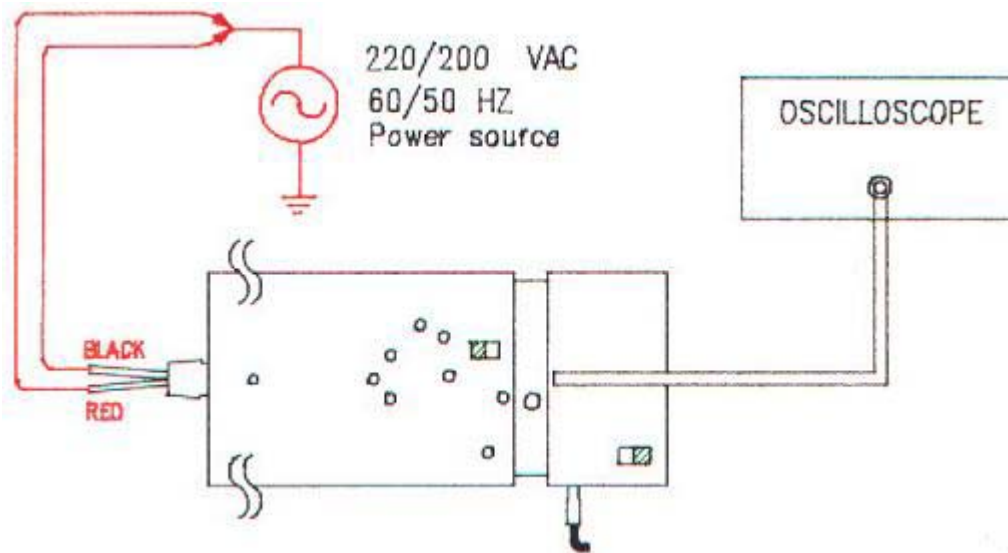

Fig. 7
- Referring to Fig. 7, connect output BNC to an oscilloscope has good grounding.